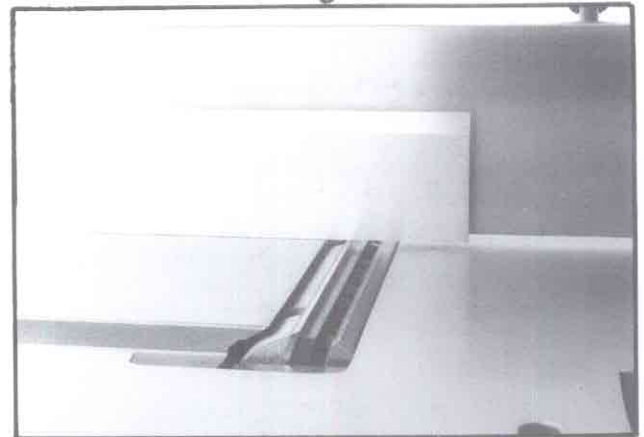

Fig. 19
4. Set a straight edge on the outfeed table. Position of the table and straight edge should look like Figure 19. Use care when handling the straight edge near the blades so as not to damage them.